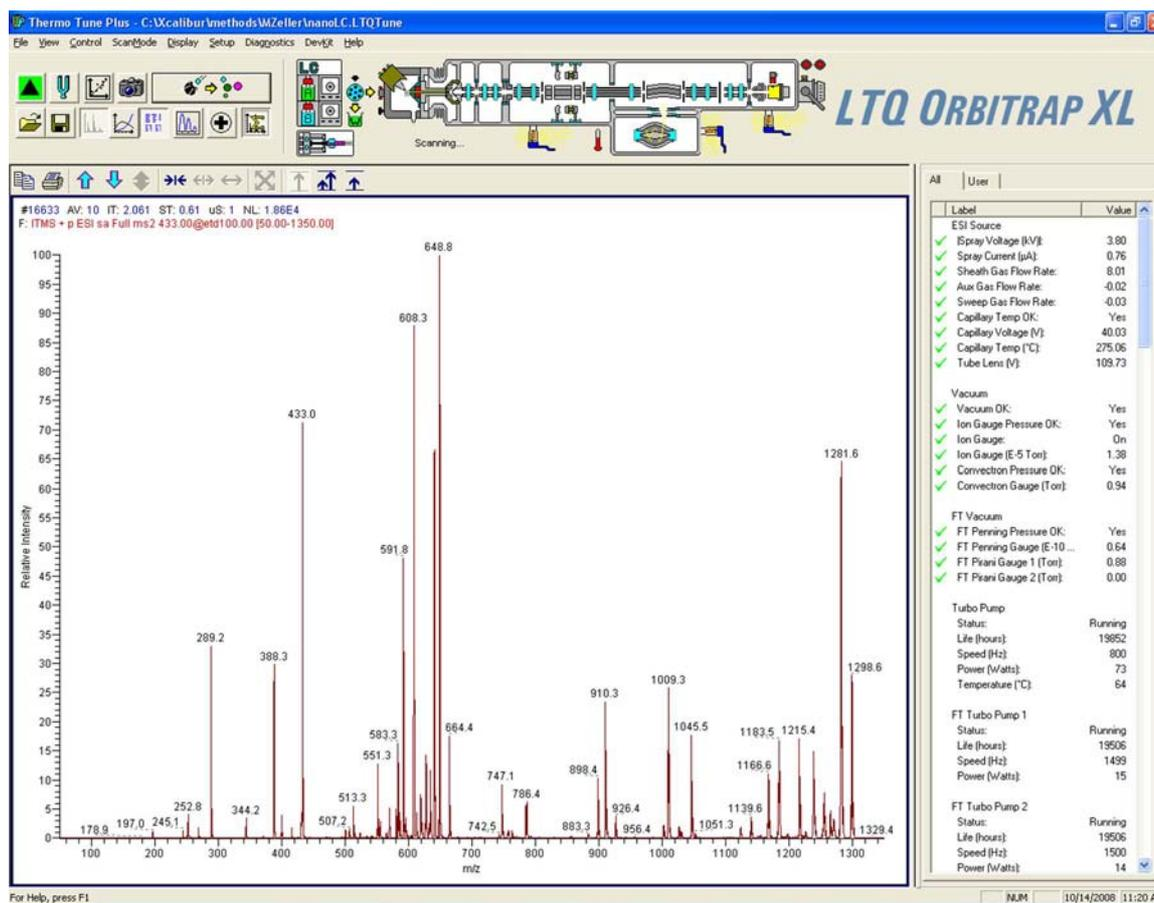

Figure 8-28. ETD MS/MS spectrum of Angiotensin I
8. Click **OK** in the Define Scan dialog box. The Define Scan dialog box closes and the ETD MS/MS spectrum of Angiotensin I appears in the Tune Plus window. See Figure 8-28 on page 8-29.